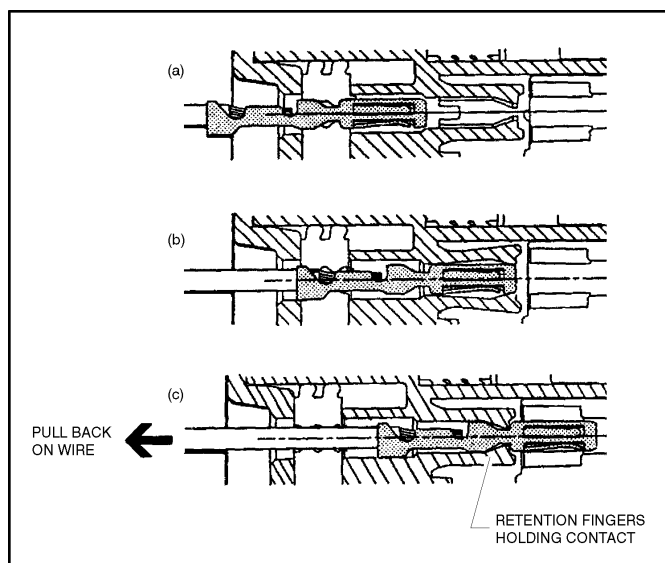

Figure 7-7. Connector Assembly (2 of 4)
1. To insert a contact, push it straight into the appropriate circuit cavity as far as it will go (See Figure 7-7. Connector Assembly (2 of 4)).
2. Pull back on the contact wire with a force of 1 or 2 lbs. to be sure the retention fingers are holding the contact (See Figure 7-7. Connector Assembly (2 of 4)).